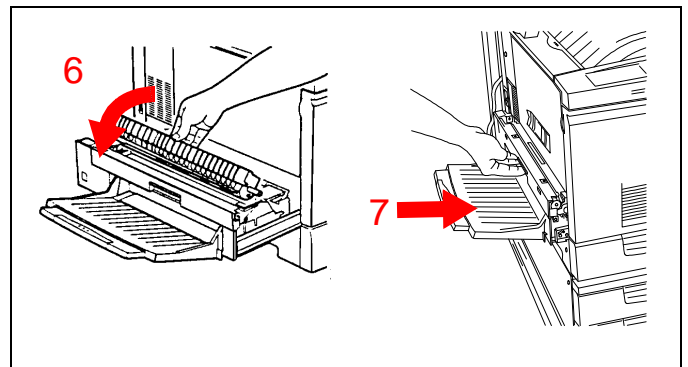

Figure 26
6. See Figure 26. Reinsert the oil roll cartridge.